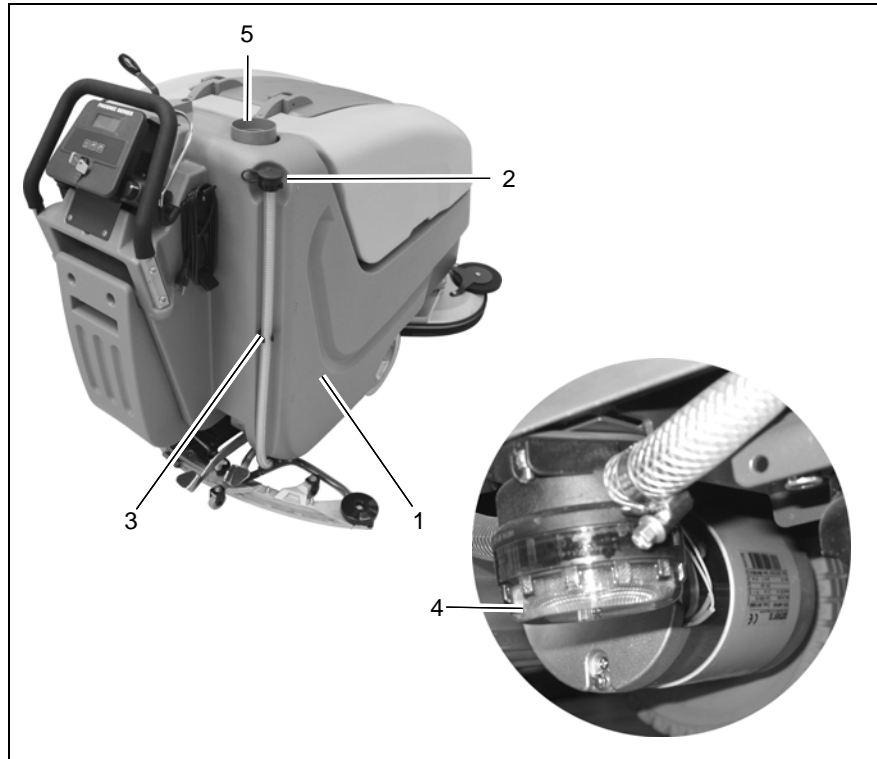

Fig.8
Fill solution tank (Fig. 8/1) before work or as required. Park vehicle on level ground. Open tank lid (Fig. 8/5) and fill tank up to the maximum (1/1 marker) (Fig. 8/2).
Park vehicle such that the fill level hose (Fig. 8/3) is located above the drain aperture in the floor. Take fill level hose from holder and remove lid.
Check solution filter (Fig. 8/4) at weekly intervals and clean or replace if required.
1. Empty solution tank (Fig. 8/1), refer to Section 5.5.2.